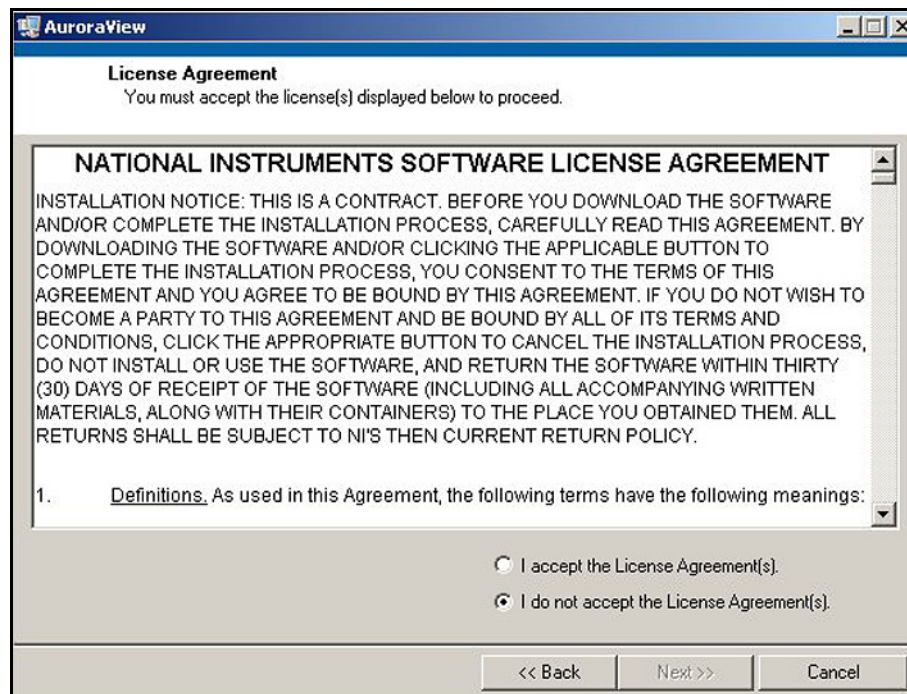

Figure 24: Software License Agreement
- At the next screen, accept the *Software License Agreement* (see *Figure 24* below) and click Next.